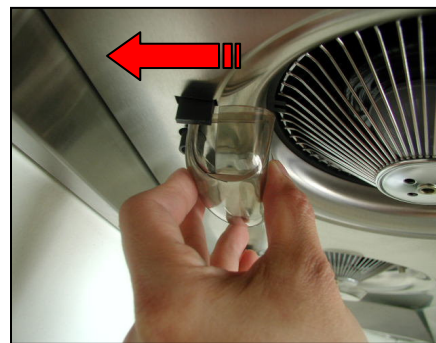

Figure 16
13. Slide oil container (oval) into plastic slot behind each safety screen. Refer to Figure 16.